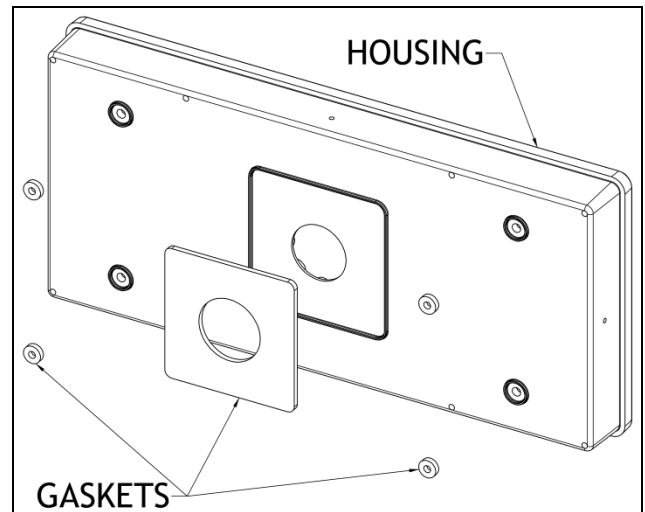

Figure 3
**Mounting** Place HOUSING over an installed electrical junction box (drill points provided for temporary j-box attachment prior to permanent mounting). Locate and drill 4 pilot holes in mounting surface using HOUSING as a template. (Fig.3): For wet location installation, attach self-adhesive pad GASKETS to HOUSING at (4) mounting holes and center wiring hole. Using ¼” fasteners and anchors appropriate for the mounting surface (not supplied), attach HOUSING to structure.